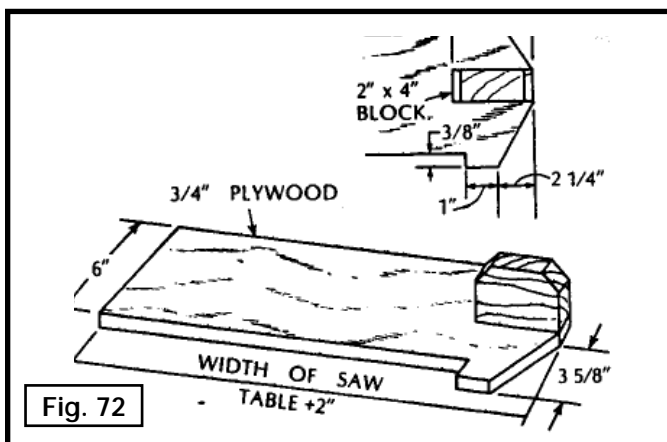

Fig. 72
4. Ripping narrow pieces can be dangerous. If possible, rip the narrow piece from the larger piece. If the workpiece is short enough, use a pushboard. (A pushboard can be constructed as shown in Fig. 72 and used as shown in Fig. 73.)